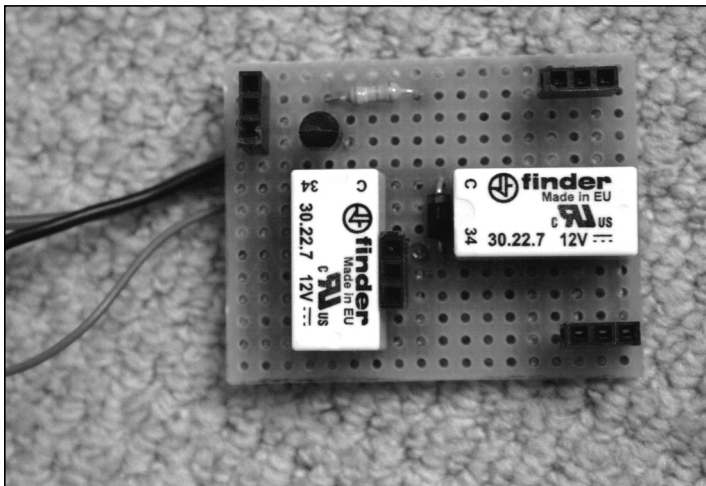

Figure 1—Band switching relay board.
On the hardware front, (Paul NA8E) has contributed a design for a band switching relay board (Figures 1 & 2 [4]). As delivered from TEN-TEC, band switching on the Rebel is accomplished by moving several jumpers on the mother-board. This board plugs into the jumper pins that would normally be moved manually and accomplishes band switching without having to go inside the Rebel. Jack, W9NMT/8 and Dennis, W6DQ are developing a CW decoder board based on the LM567 tone decoder chip (currently working up to 18 wpm). I am working on a shield (daughter board, discussed below) which will use a Fubarino Mini as an I/O Expansion Processor connecting back to the main chipKIT UNO32 board via an I2C interface. Finally, the Rebel can now support several types of LCD displays: 20x4 and 16x2 parallel displays, 20x4 and 16x2 I2C displays and the Nokia 5110 graphic
4. Credit for Figures 1, 2, and 3 goes to Johan van Dijk, PA3ANG (pa3ang@xs4all.nl).